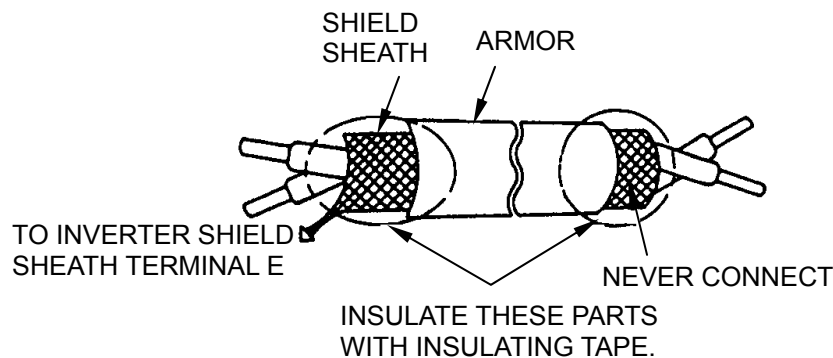

Fig. 4 Shielded Wire Termination
- (1) Separation of control circuit leads and main circuit leads: All signal leads must be separated from main circuit leads L1 (R), L2 (S), L3 (T), +, -, B2, T1 (U), T2 (V), T3 (W) and other power cables to prevent erroneous operation caused by noise interference.
- (2) Control circuit leads 9, 10, 18, 19, 20 (contact output) must be separated from leads 1 to 8, 21, 22, 25, 26, 27 and 11, 17.
- (3) Use twisted shielded or twisted pair shielded wire for the control circuit line and connect the shield sheath to the inverter terminal E to prevent malfunction caused by noise. See Fig.4. Wiring distance should be less than 164ft (50m).